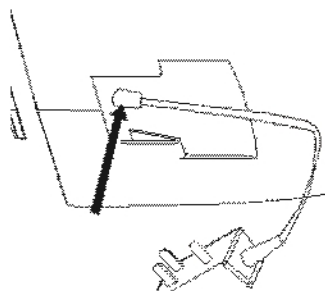

Fig.2
- Insert the appliance in the charger with the opening facing upward and connect to the socket. (Fig.2)